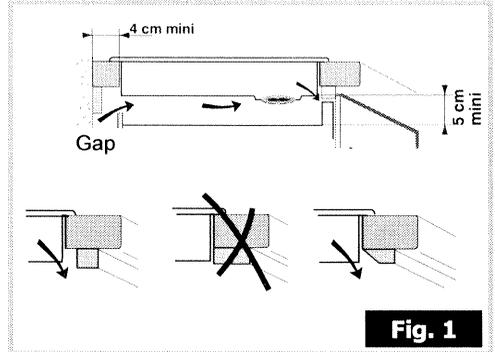

Fig. 1
- Fitting above a cupboard or drawer unit (**Fig. 1**).
- Using the spanner supplied, unscrew the injectors at the bottom of each dish and remove them (**fig 1**).